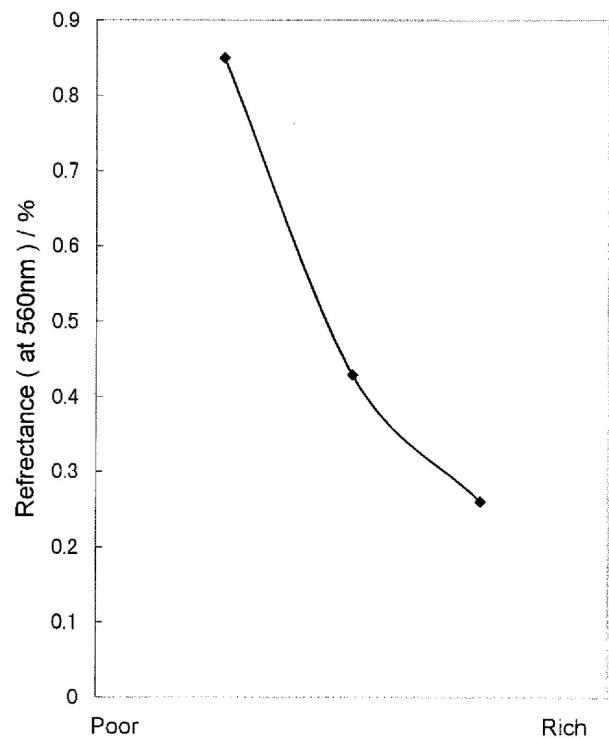

Fig. 1 Content of Low Refractive Material vs. reflectance
- 1) The reflectance can be regulated by changing the amount of low refractive material content (Figure 1).